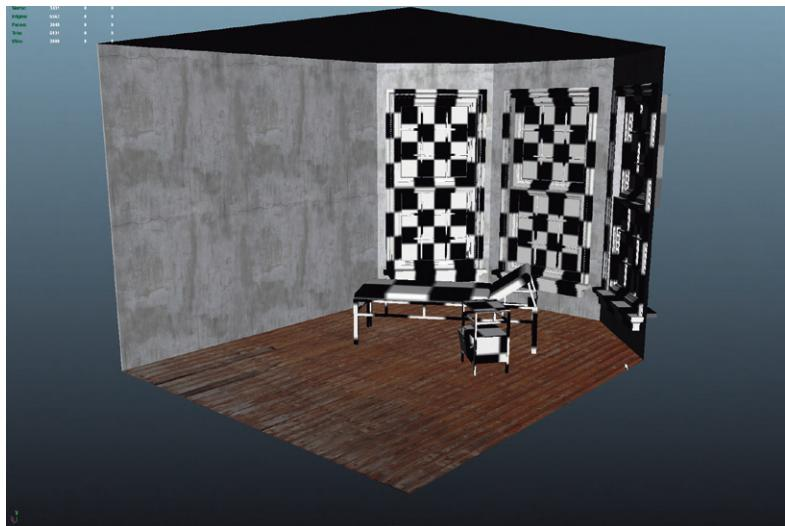

FIG 6.9 Applied material (note this screenshot is viewing the scene with Backface Culling turned on for clarity).
Step 20: Apply this material to the wall shape. To do this, middle-mouse-drag the Wall_Mat from the Hypershade onto the walls of the room (Fig. 6.9).